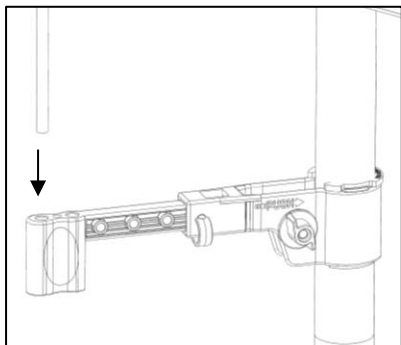

Fig. 3.2
- c. Insert the other end of the frame rod fully into the corresponding clamp hole position. (Fig. 3.2)